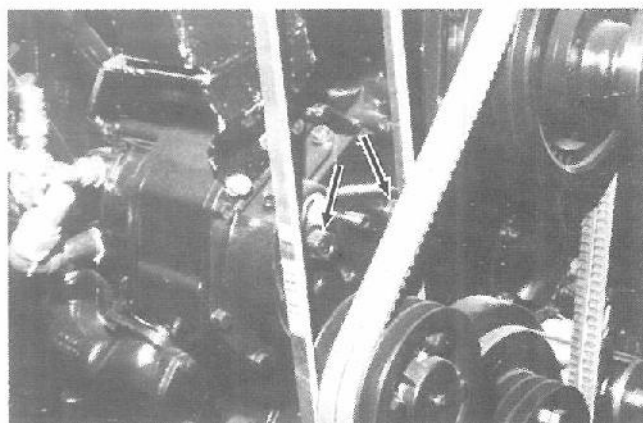

Figure 48: Idler Capscrews. (Cat)
Fan Belt Adjustment (Fig. 48)
1. Adjust fan belt tension on idler pulley bracket - loosen bracket capscrews; with the use of pry bar - adjust idler to proper belt tension as indicated in Fig. 48).